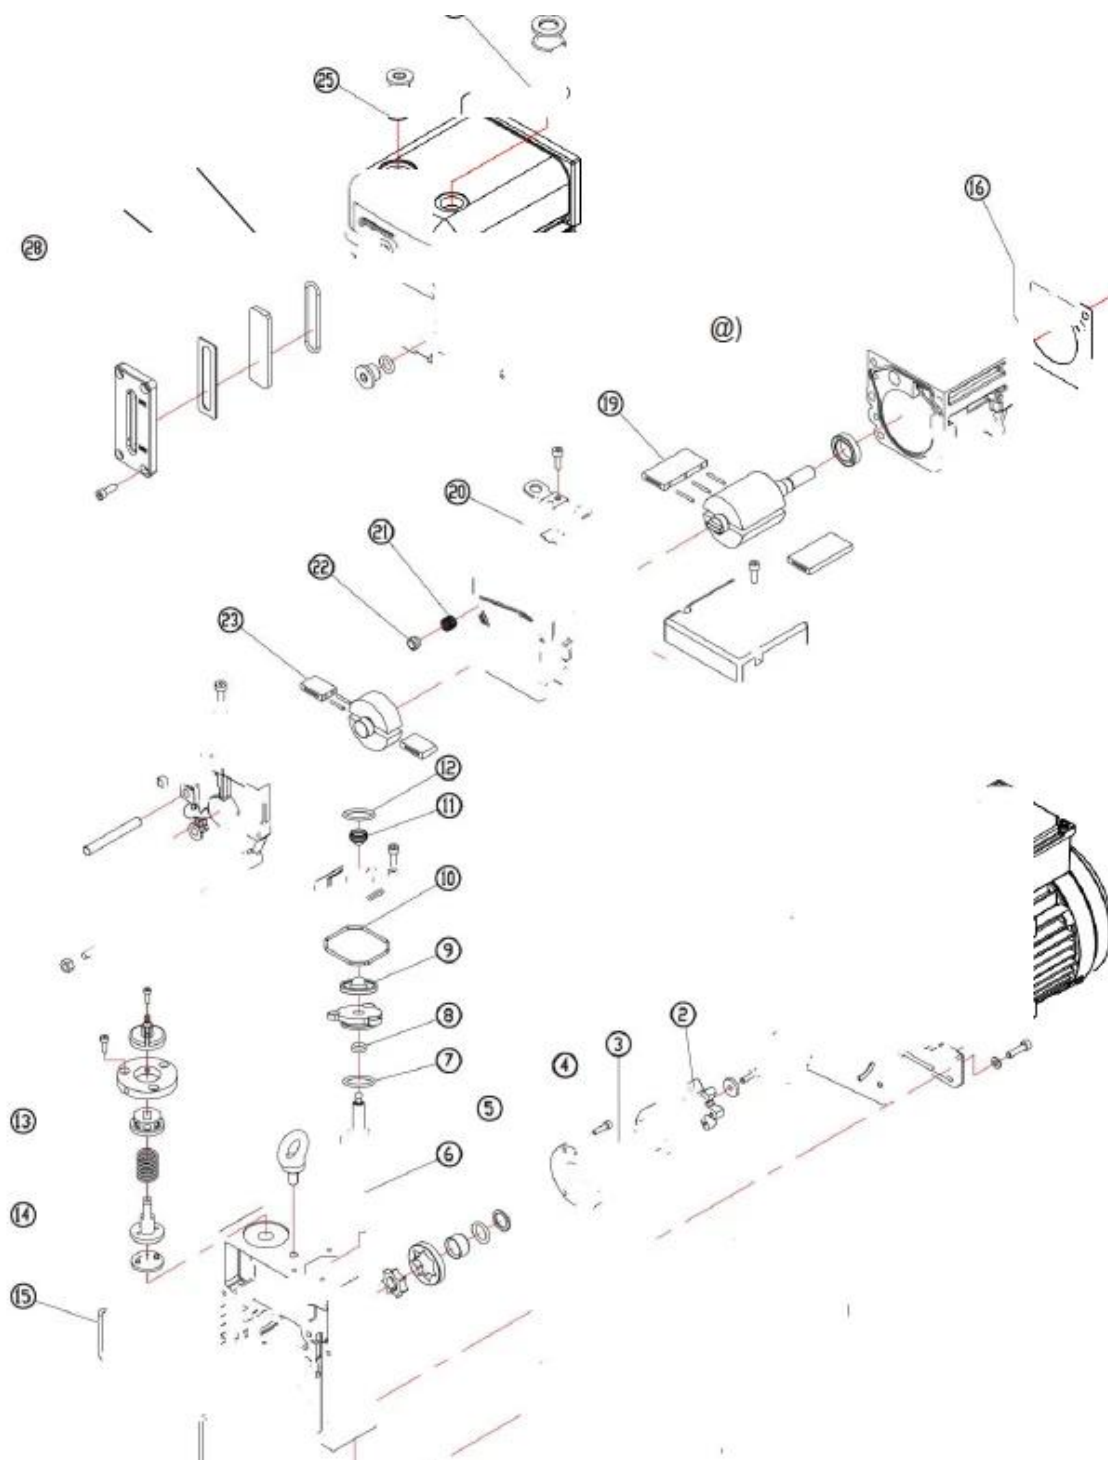

Figure 6
1) The oil level shall be always kept between position MAX and MIN of oil sight glass during operation (refer to Fig. 6). Add oil when the oil level is lower than position MIN and discharge oil by removing the oil drain plug (refer to Fig. 1) when the oil level is above position MAX.